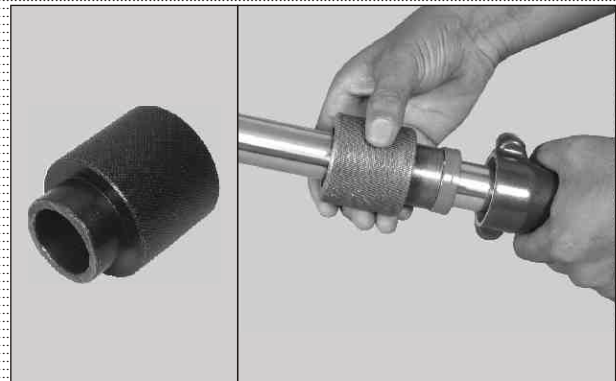

Fig. 1.8
- To install front fork oil seal and dust cap. (Fig 1.8)